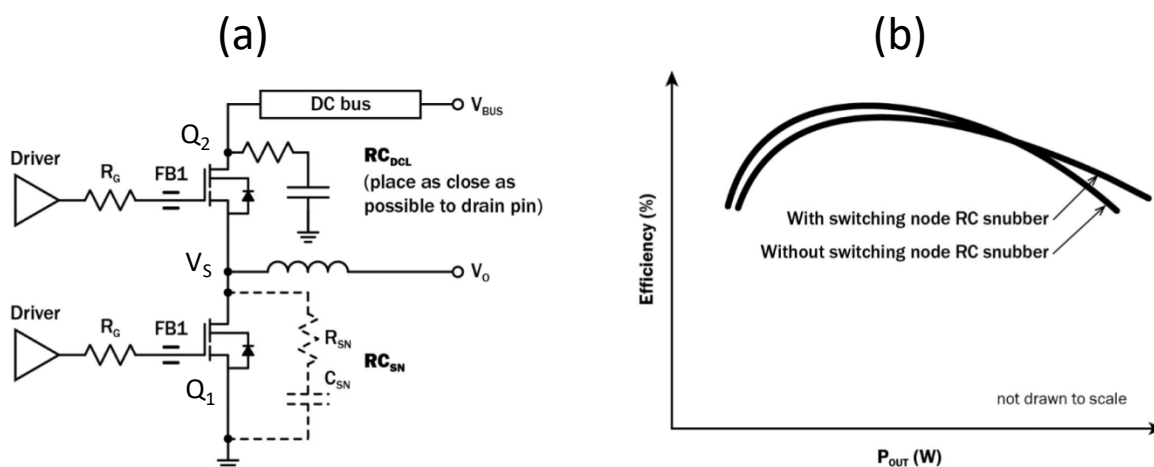
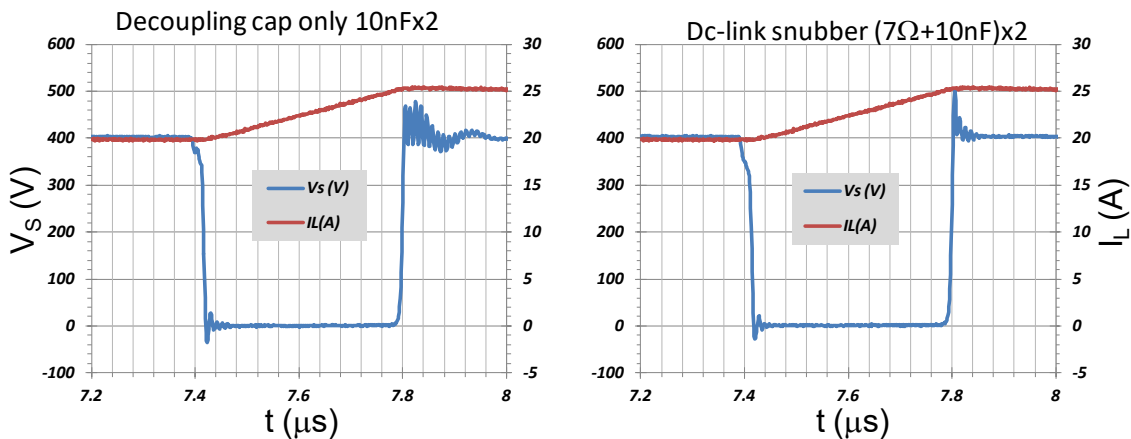
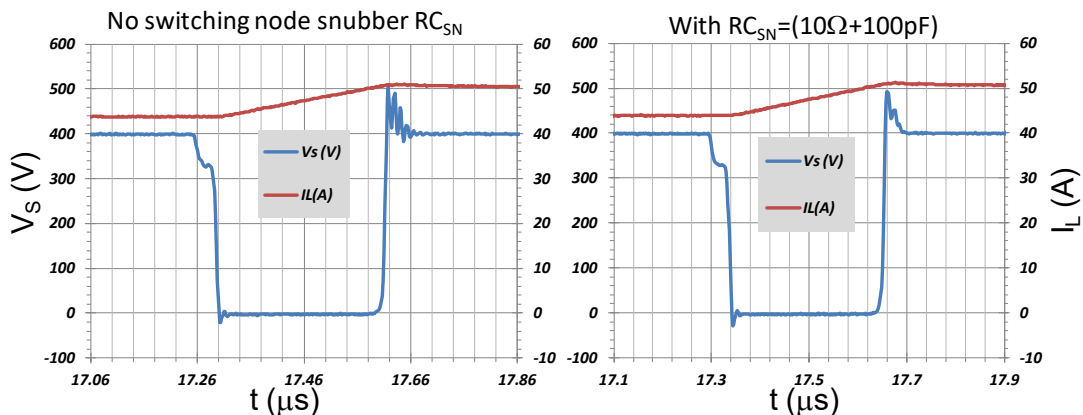

Figure 1. a) Half-bridge switching circuit and b) Efficiency vs. output power
Figure 2. Half-bridge inductive switching waveforms with decoupling capacitor only and with DC-link snubber (RC_{DCL}) (Devices: TP65H050WS)
Figure 3. Effect of switching node snubber RC_{SN} on half-bridge inductive switching waveforms (Devices: TP65H035WS).
To avoid sustained oscillation, it is important to minimize noise generation, to minimize noise feedback, and to damp the ringing energy resulting from the high current/voltage transients. This can be achieved with the recommendations outlined below using a half-bridge switching circuit in Figure 1 as an example.
2) Use a gate ferrite bead [FB1 in Figure 1(a)] to prevent the high-frequency noise from entering the driver and logic circuits. This bead should be mounted close to the Gate lead of the device. NOTE: This is required even for single-ended non-half-bridge designs. The specification of the recommended gate ferrite beads are listed in Transphorm's GaN FET datasheets and also summarized in Table 2. The TO247 package includes a built-in gate ferrite bead for our Gen III devices but has been moved to the outside for our latest Gen IV (G4) devices. Please refer to page three of the datasheet to verify its position.
3) Use a DC-link RC snubber [RC_{DCL} in Figure 1(a)]. The DC rail or DC-link, when decoupled with a low-ESR fast capacitor, can be considered a high-Q C-L network at high frequencies (with "L" being the feed inductance of the DC bus). This can interact with the devices at voltage/current transients and lead to ringing. Adding an RC snubber across the DC-link close to the drain pin of the high-side device can effectively absorb the ringing energy, suppressing potential oscillation. This effect is shown in **Figure 2** where the high-frequency ringing at 25 A turn-off is substantially damped with the RC_{DCL} . Since this snubber is not inserted at the switching node, it does not add switching loss to the circuit. NOTE: This is recommended even for single-ended non-half-bridge designs. The practical values of the RC_{DCL} can be 2 sets of 6-10 Ω /0.5W SMD resistors in series with a 10nF/600-1000V ceramic SMD cap, or 1 set of 3-4 Ω /1W resistors in series with a 10-20nF/600-1000V cap if space is limited.
4) Adding a switching-node RC snubber [RC_{SN} in Figure 1(a)] can further reduce high-frequency ringing and help control di/dt transients at high operation currents. The effect of the RC_{SN} on switching waveform at a switching current >50 A is shown in **Figure 3**. Unlike the RC_{DCL} , the capacitance of the RC_{SN} does increase switching loss. The recommended snubber parameters with little degradation in efficiency are given in the datasheet and are summarized in **Table 2** for both single R_G and dual $R_{G(ON)}/R_{G(OFF)}$ use.
Note that the reverse diode switching current limits were obtained with the recommended circuit parameters [Figure 1(a) and Table 2]. The gate resistor(s) are important to control the di/dt and the addition of a switching node snubber RC_{SN} offers further improvements when operation current is high. The effect of RC_{SN} is shown in Figure 1(b): a slight reduction in low-load efficiency, but a significant enhancement at high load. In applications with R_G is equal to or higher than the recommended value, the RC_{SN} can be omitted. In all situations, care has to be taken to ensure junction temperature of the devices do not exceeding maximum rating.